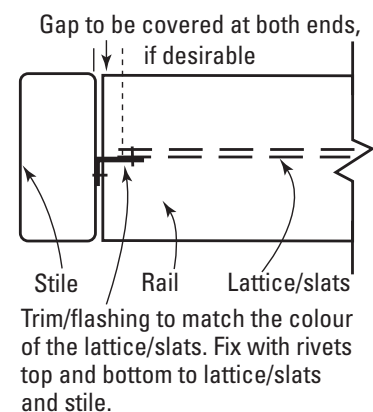

Figure 22.6
16. Ensure the lattice is centred. If desirable, the gaps on either side of the 'Plus' option can be filled with a suitably sized flashing (trim and fix with rivets top and bottom to lattice/slats and stile - Figure 22.6)